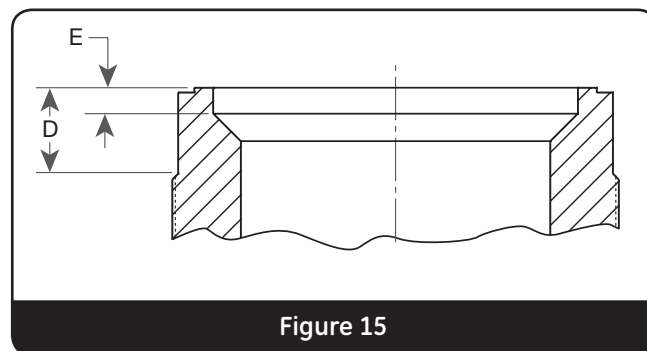

Figure 15
- The use of a reseating machine is suggested for reconditioning badly worn seats, or for re-establishing Dimension E per Figure 15. Dimension E should be re-established when it is less than .010" (0.25 mm) for orifices 1, 2, 3, 5 and 4; and less than .030" (0.76 mm) for orifices 6 and Q.